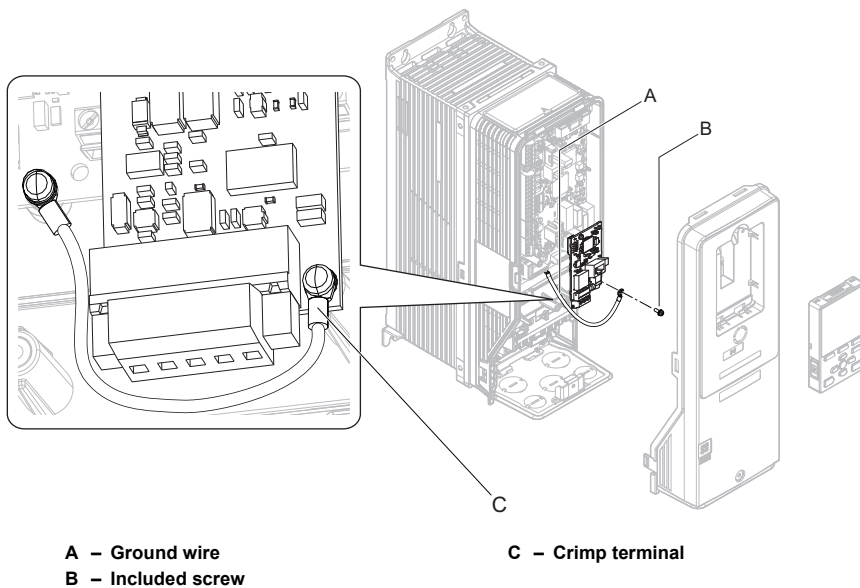

Figure 22 Connect the Ground Wire
Note: Refer to Figure 22 for instruction about crimp terminal orientation (C) and wire routing.